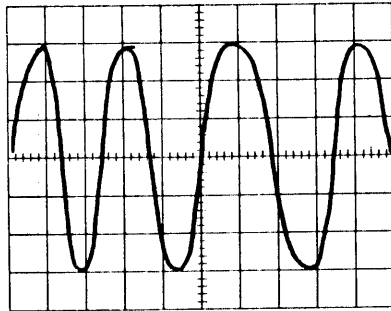

Figure A3-14. Azimuth Alignment Check
**A3.7.3 Azimuthal Alignment Check (Figure A3-14)**